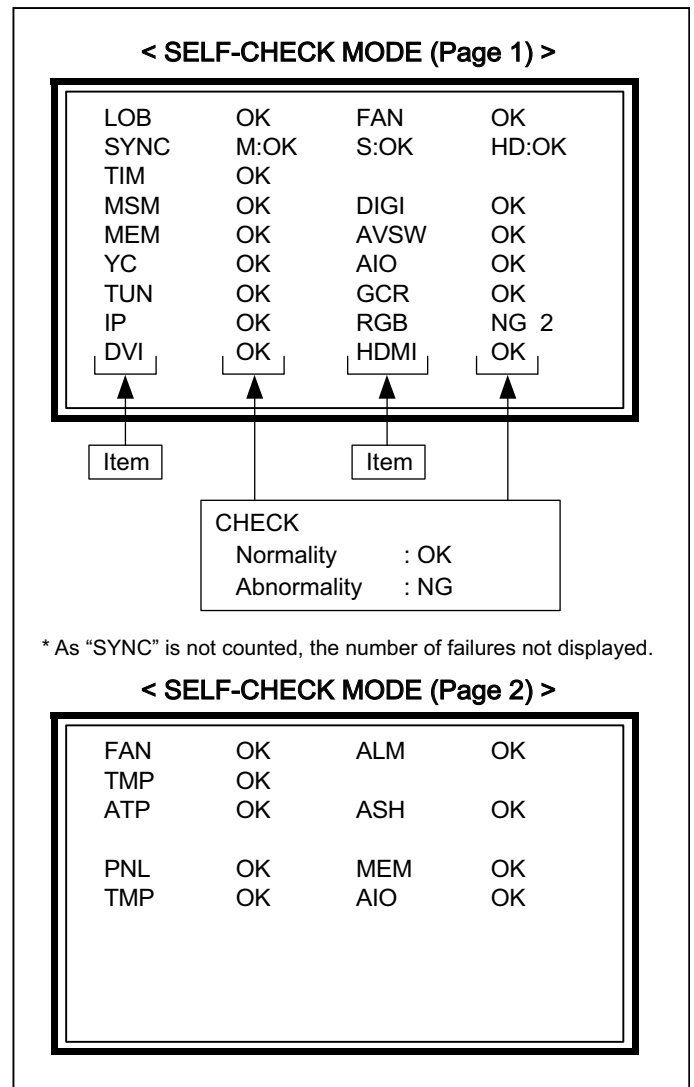

Fig. 2
- (2) In the SERVICE MENU, press the [2] key. Then, the SELF-CHECK MODE screen will be displayed. (See Fig.2)
- (3) Press the [ZOOM (red)] key, then the second page of the SELF-CHECK MODE screen will be displayed.